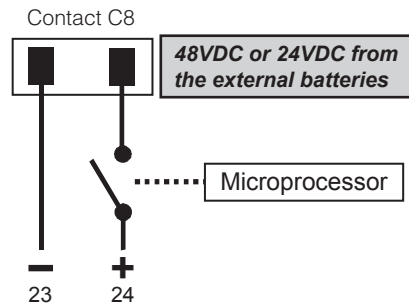

Figure 3.8 ATS Layout
- **ATS (C8):** When the FXM is in Inverter mode, this normally open relay closes (Figure 3.8), sending 48 VDC (FXM 650-48, 1100, 2000) or 24 VDC (FXM 650-24) from the external batteries to this dry contact. If the optional Alpha Technologies's Automatic Transfer Switch (ATS) is connected, it will cause the ATS to switch the load from line power to the FXM's battery backup power.